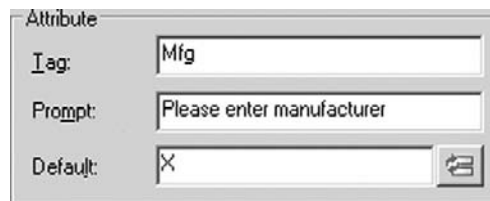

FIGURE 18.4
- For Default, type in X (this is the generic placeholder) as seen in Figure 18.4.